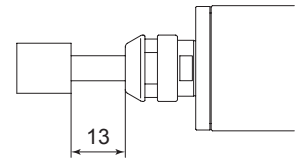

Fig. 17
- ① The proper surface speed for general grindstones is 10 - 30m / s.
- ② Do not exceed 13mm of overhang for mounted grindstones as shown in Fig. 17. If the overhang must exceed 13mm, reduce the motor speed in accordance with Table. 3.
- ③ Dress the grindstone prior to use.
- ④ Do not use cutting tools with bent or broken shanks, cracks or excessive run-out.
- ⑤ For grinding, the maximum depth of cut should not exceed 0.01mm radially or axially. Reciprocate the tool several times after each pass to eliminate tool pressure.
- ⑥ Always operate cutting tools within the allowable recommended speed of the cutting tools. Use of a cutting tool outside of the allowable speed of the cutting tools could cause damage to the spindle and injury to the operator.
- ⑦ Keep the cutting tool shank and collet clean. If contaminants are left in the collet or collet nut, excessive run-out will cause damage to the cutting tool and or spindle.
- ⑧ Do not strike or disassemble the Air Motor Spindle.
- ⑨ Please set the cutting tools to minimize the overhang amount. 13mm is the maximum amount of overhang to maintain high accuracy and safety.